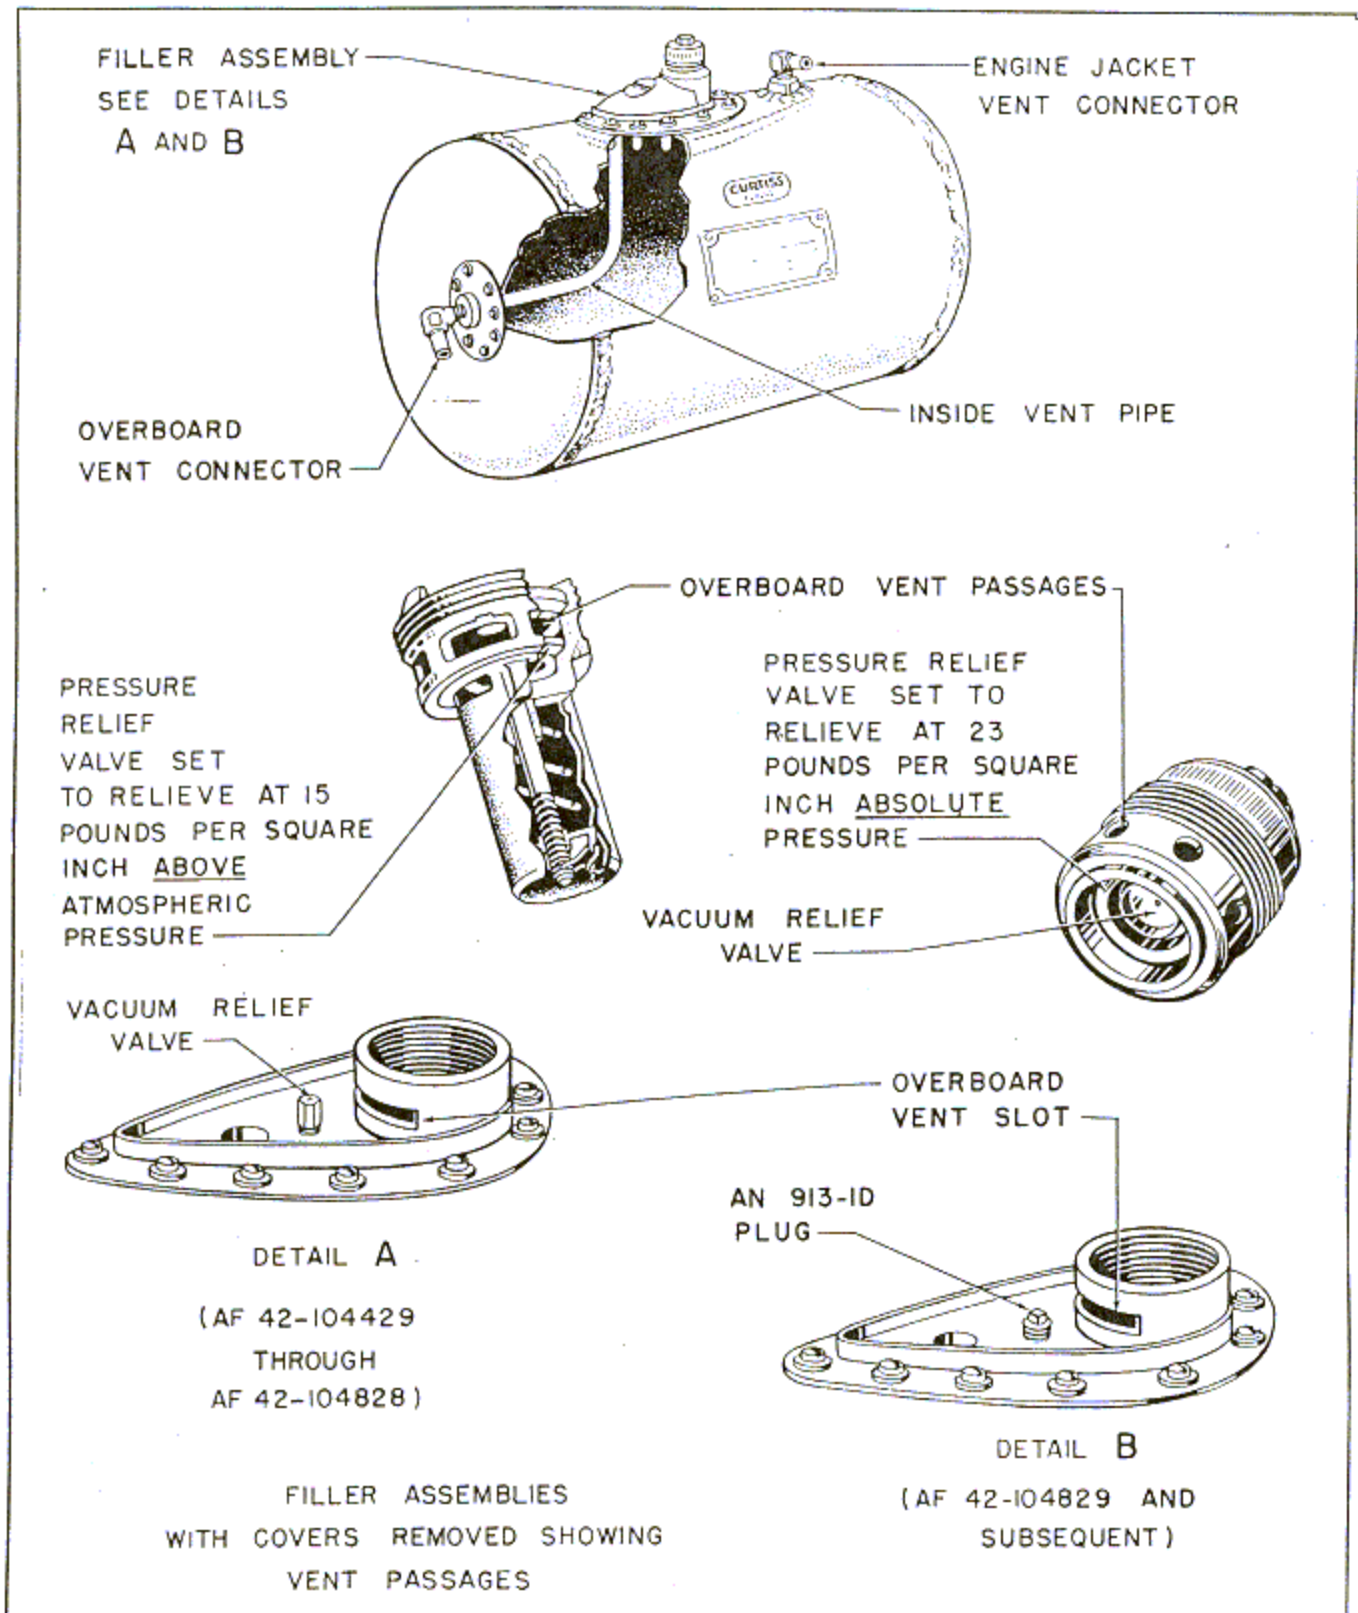

Figure 190—Coolant Expansion Tank Details
(*a*) DESCRIPTION. (See figure 190.)
2. In airplanes AF42-104429 through AF42-104828, a spring-loaded pressure relief valve is incorporated in the filler cap. This valve opens when the pressure in the cooling system exceeds the atmospheric pressure by 15 pounds per square inch. Excess pressure is vented through the overboard vent line. A small vacuum relief valve is provided in the filler assembly and opens when the atmospheric pressure exceeds the pressure in the system. (See detail A, figure 190.)
atmospheric pressure exceeds the tank pressure by one pound per square inch gage or less. (See detail B, figure 190.)